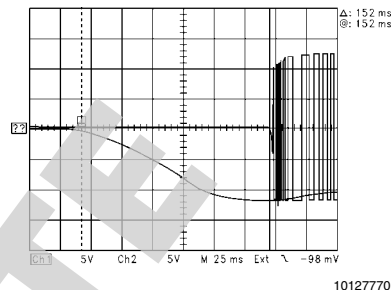

FIGURE 3. Startup Timing Diagram
The LM4651 has an internal soft start feature (see Figure 3) that ensures reliable and consistent start-up while minimizing turn-on thumps or pops. During the start-up cycle the system is in standby mode. This start-up time is controlled externally by adjusting the capacitance (C_{START}) value connected to the START pin. The start-up time can be controlled by the capacitor value connected to the START pin given by Equation (1) or (2):